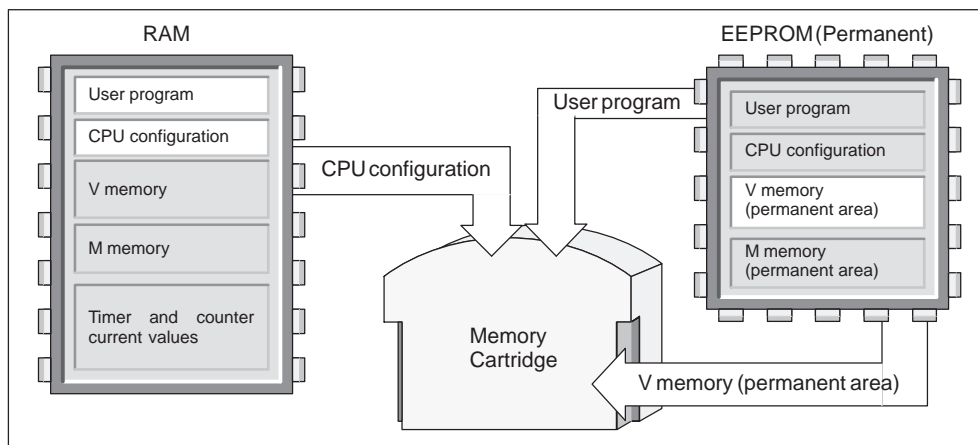

Figure 5-20 Copying the CPU Memory to the Memory Cartridge
2. Use the menu command **PLC Program Memory Cartridge** to copy the program to the memory cartridge. Figure 5-20 shows the elements of the CPU memory that are stored on the memory cartridge.